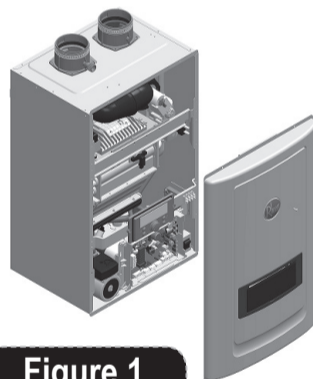

Figure 1
- ① Turn off both gas and water supply to the water heater. And, turn the power off.
- ② Use a hand screwdriver to remove the 4 screws for the front cover. See Figure 1 for illustration of the front cover on the unit.